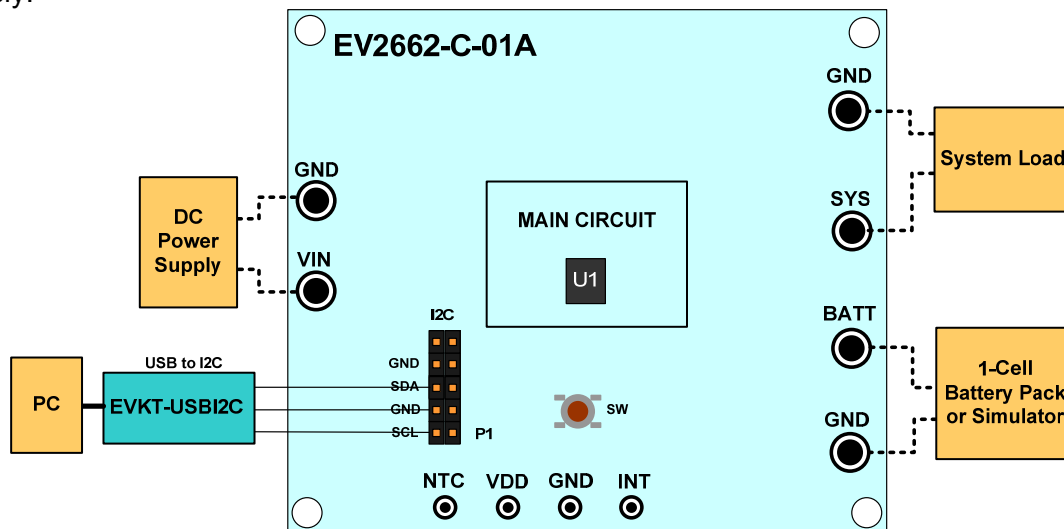

Figure 2: Test Setup for MP2662
- 4) Original Test Setup for MP2662 in Figure2.